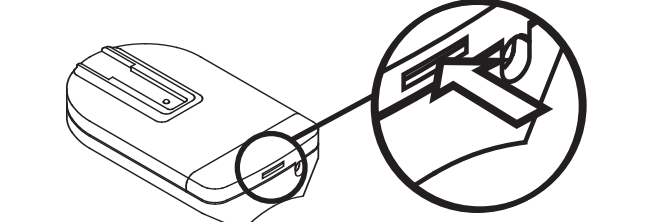

Fig. 2
- Gently push straight **IN** on Tab as shown Fig. 2